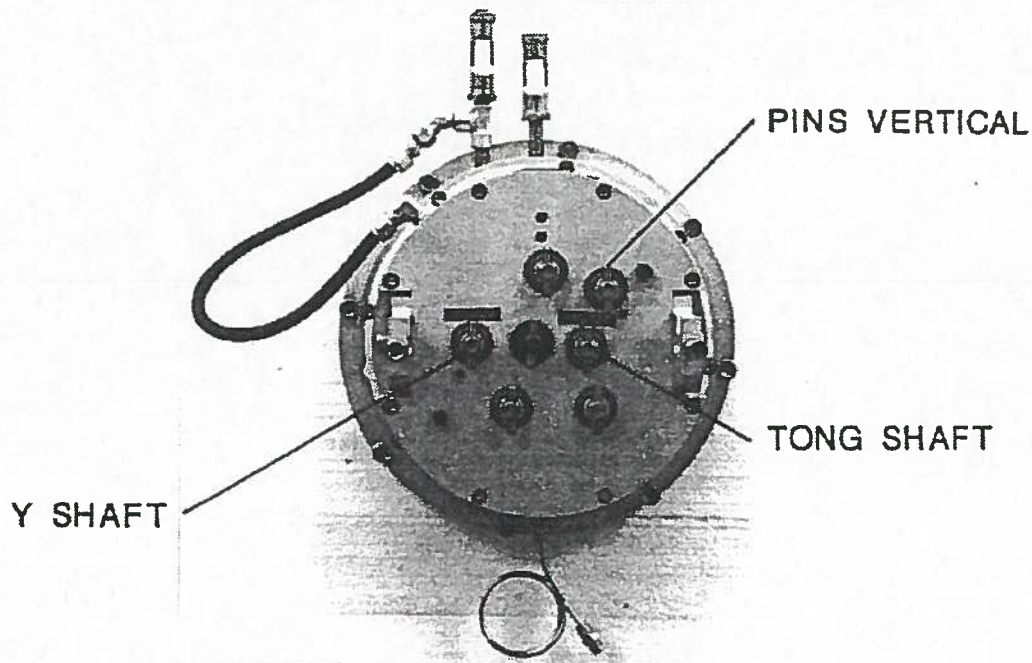

FIG. 31
3. Check the seal tube to see that the drive pins in the transfer shafts are vertical and the tong and Y shafts are in an up position (Fig. 31).